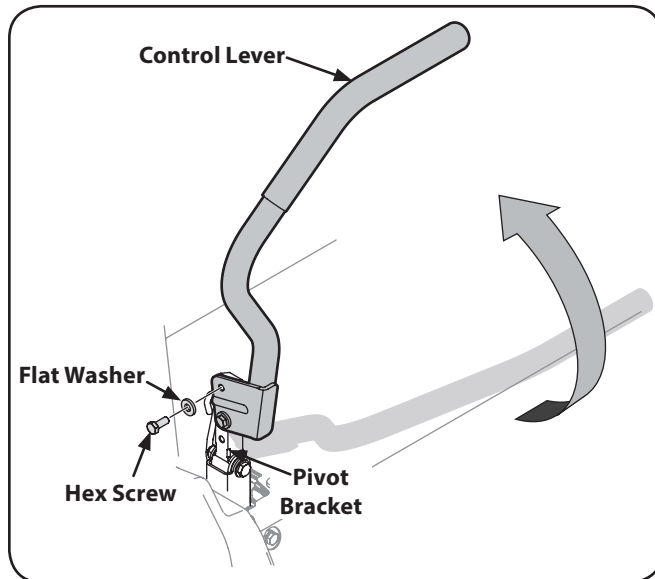

Figure 3-3
2. Lift and swing that control lever upward until the hole in the lever bracket aligns with one of the holes in the pivot bracket. See Figure 3-3.
3. Slide the flat washer onto the hex screw. From the outside, insert the hex screw with washer through the control lever slot and the hole of the pivot bracket. See Figure 3-3. Using a 1/2" wrench snug the screw, but do not fully tighten.